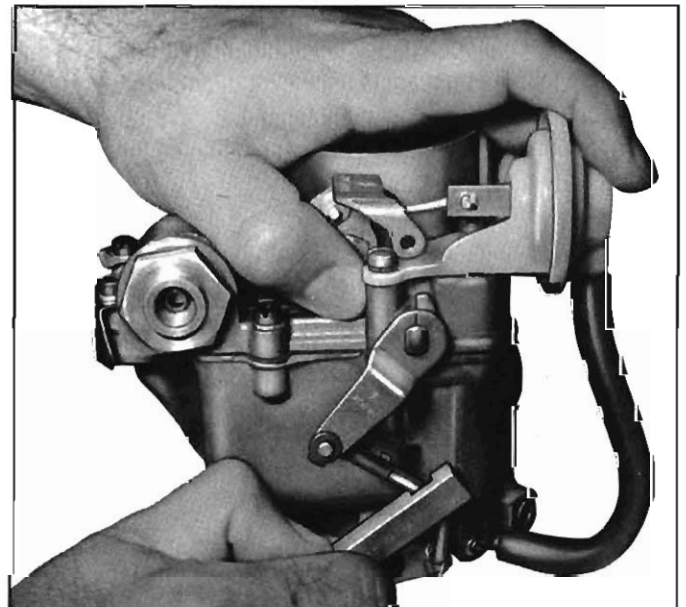

Fig. 9—Adjusting Pump Rod
2. Holding throttle valves closed, check to see that the scribe mark on the accelerator pump lever is aligned with the raised cast tang (front edge) on the bowl cover shown in Figure 9.